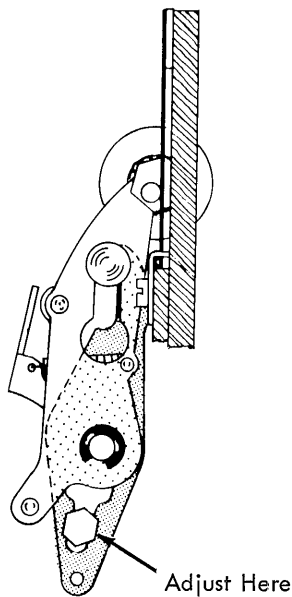

FIGURE 122. Rotate Arm Movement
10. Rotate Arm Motion - The adjustable plate on the bottom of the rotate arm (Fig. 122) should be adjusted up or down so that a half-cycled upper case +5 rotate character detents the same as a half-cycled upper case -3 rotate character. When observing the detenting remove the head play lightly in the negative direction.